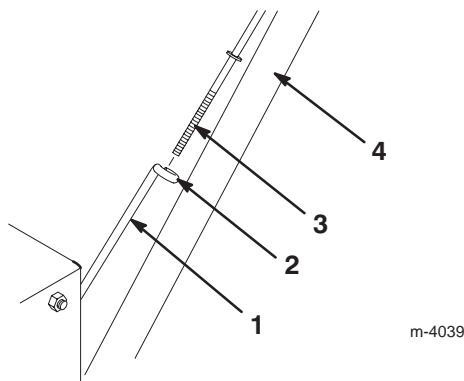

Figure 3
3. Hold the handle assembly in the installation position and insert the upper traction rod through the loop in the lower traction rod (Fig. 3).